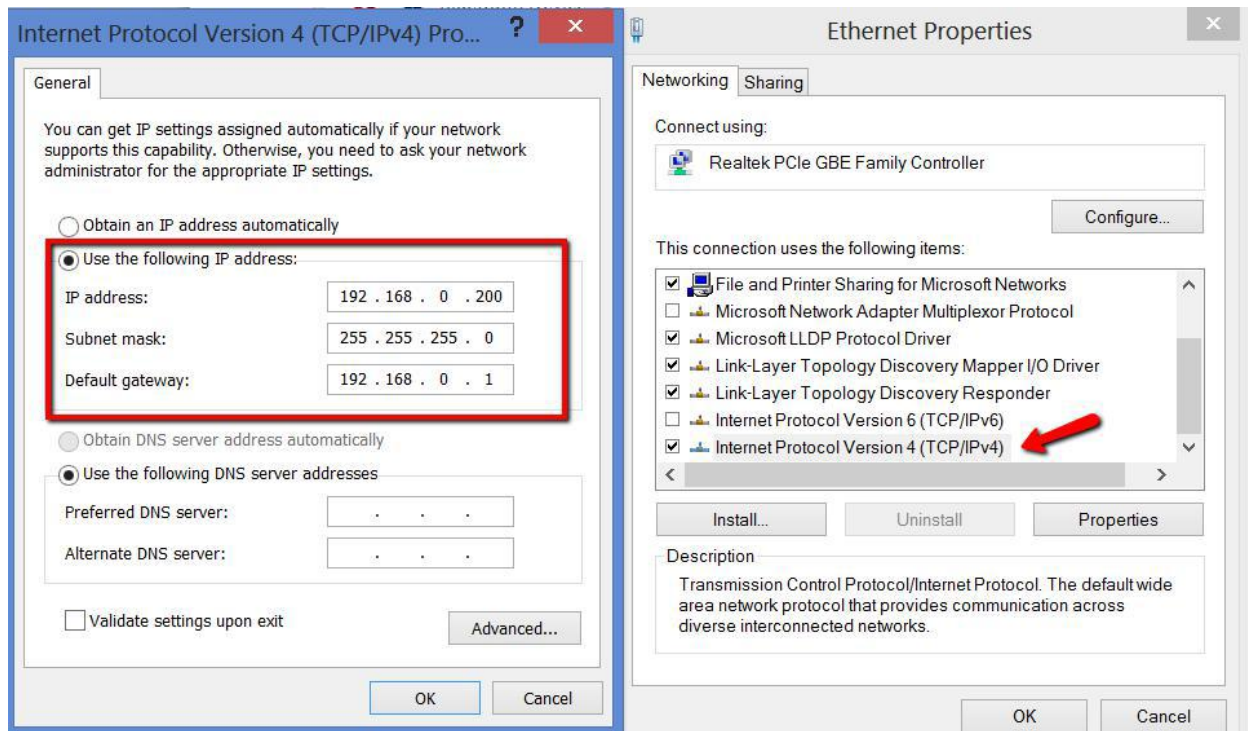

Figure 18 OLD IP SETTING
e. Scroll Down and double click “TCP//IPv4” and Set the IP as below Figure 18.